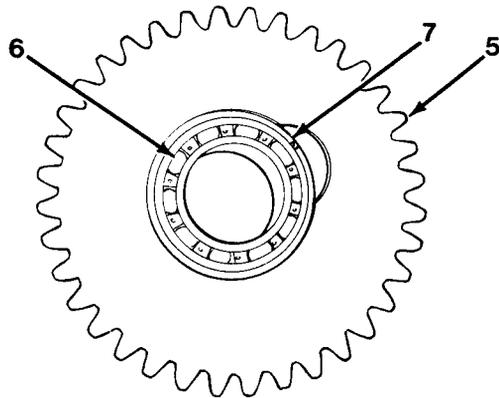

Figure 11-3
28. Open snap ring (7), to install bearing (6) into forward and rear welded assembly (5, Figure 11-3).
29. Install bearing (6) into forward and rear welded assembly (5). Snap ring (7) must seat in bearing assembly.
30. Remove alignment bars, if used, and seat bearing (6) and forward and rear welded assembly (5).